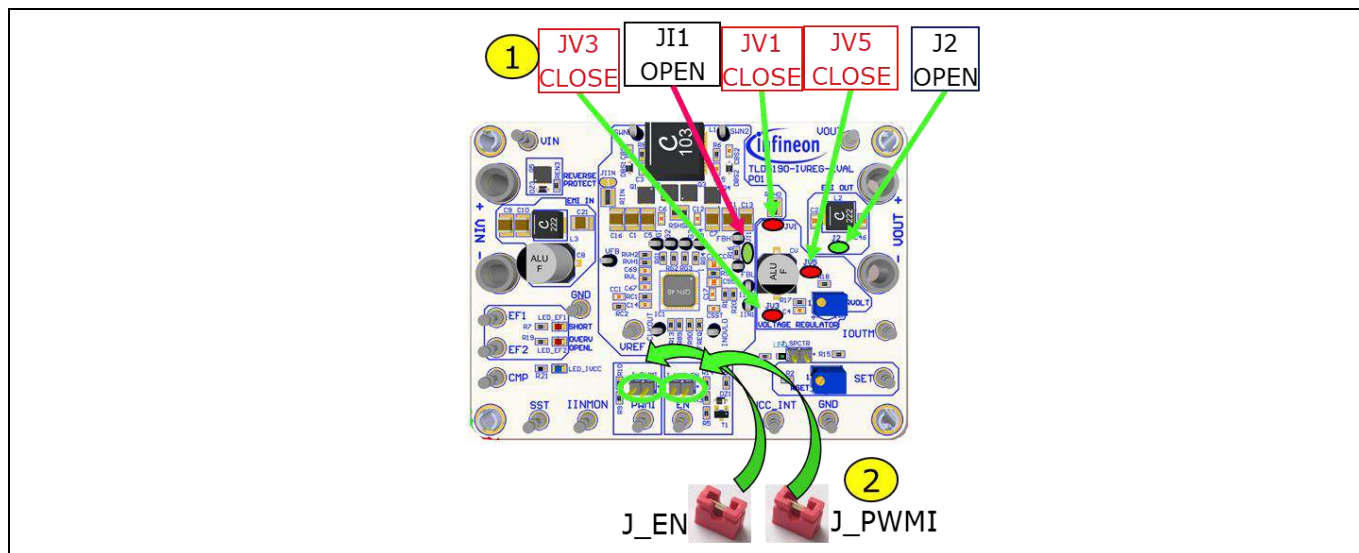

Figure 6 Voltage regulator: set EN jumpers, populate solder jumps
1. Configure solder jumper for VREG (Figure 6), if $I_{OUT} > 3\text{ A}$ bypass RSHO with a solder joint on the resistor top